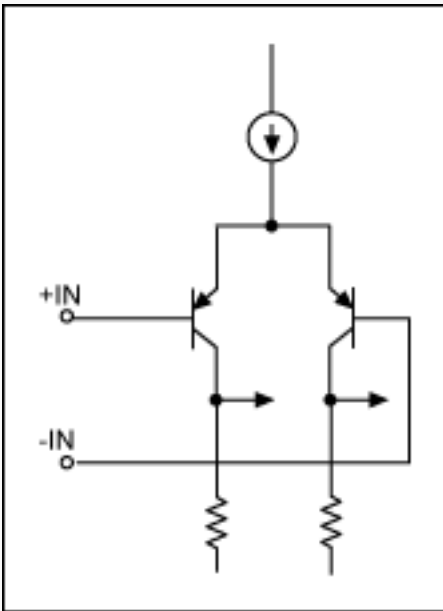

Figure 6. Input circuit which includes a ground in the input range.
**Figure 6** shows the typical bipolar configuration of an op amp that includes the ground rail in the common-mode range. Bipolar parts which exhibit this negative-rail capability are the MAX4493 and LMX321 families. CMOS-equivalent parts are the MAX4475 and MAX4036 families.